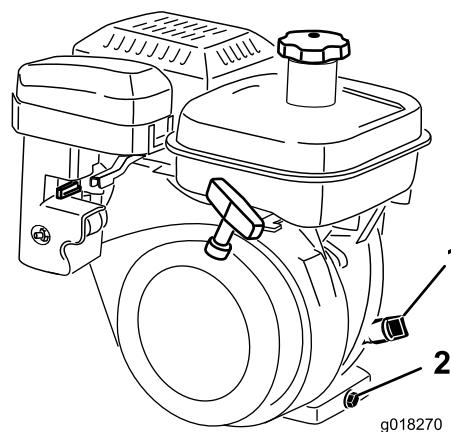

Figure 30
2. Position the mower so the engine is level and clean around the oil level gauge (Figure 30).
3. Remove the oil level gauge by rotating it counterclockwise (Figure 30).
4. Wipe the oil level gauge clean and insert it into the filler port. Do not screw the gauge into the port. Then remove and check the level of the oil. If the level is low, add only enough oil to raise the level until it is between the H and L marks on the gauge (Figure 30). Check the level of the oil. Do not overfill.
2. At the rear of the machine, place a drain pan under the drain plug (Figure 30). Loosen the drain plug.